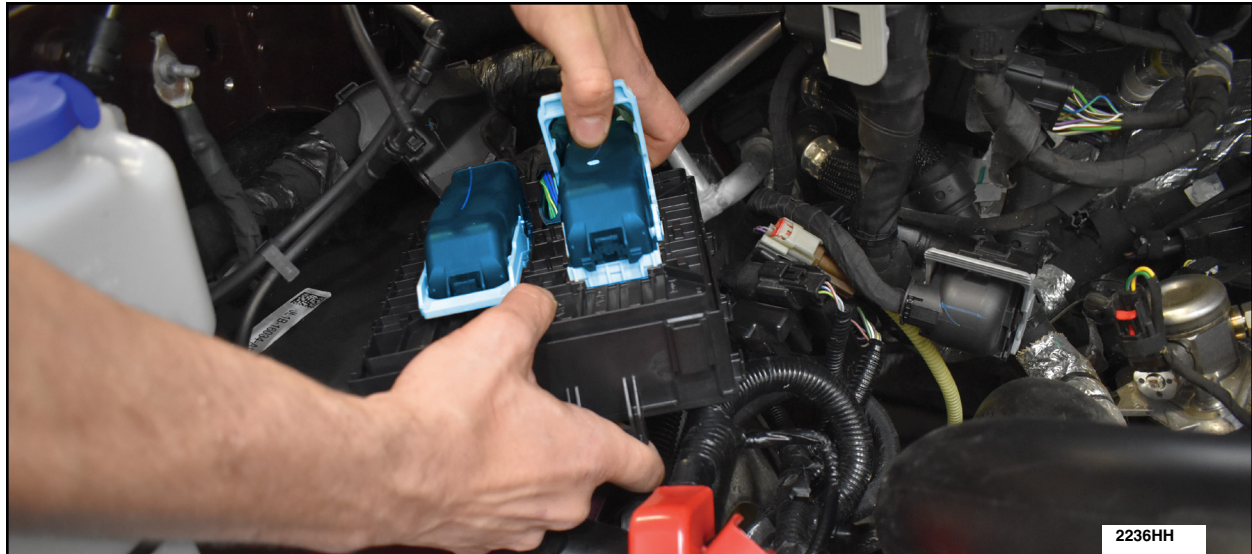

FIGURE 13
14. Disconnect the three wire harness connectors from the BJB. See Figure 13.